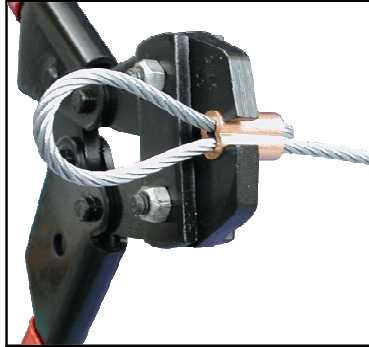

FIGURE 1
2. PLACE SLEEVE TO BE COMPRESSED IN THE 1/4" GROOVE IN SWAGING TOOL AS SHOWN IN FIGURE 1. LENGTH OF CABLE EQUAL TO THE CABLE DIAMETER SHOULD EXTEND BEYOND LENGTH OF SLEEVE TO ACHIEVE MAXIMUM HOLDING. (SEE ARROW IN FIGURE 3).